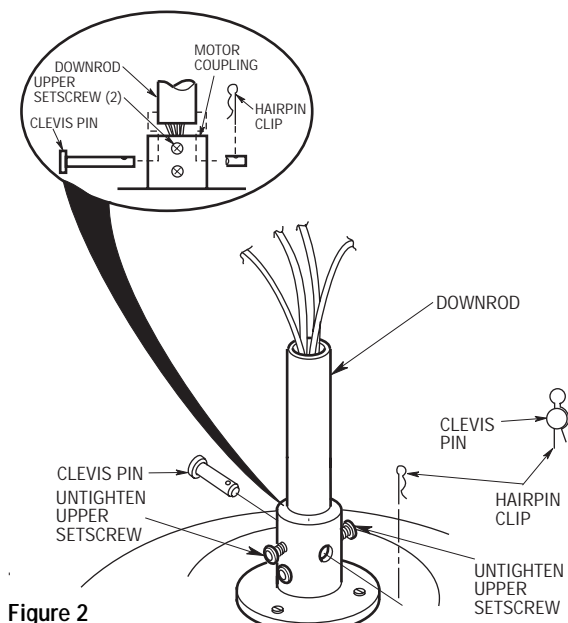

Figure 2
- 2. Unscrew the two upper setscrews (Figure 2) until they clear the inside of the motor coupling. Then separate, untwist and unkink the three 80" motor leads. Route the motor lead wires through the downrod. Align the clevis pin holes in the downrod with the holes in the motor coupling. Install the clevis pin and secure with the hairpin clip (Figure 2). The clevis pin must go through the holes in the motor coupling and the holes in the downrod. Be sure to push the straight leg of the hairpin clip through the hole near the end of the clevis pin until the curved portion of the hairpin clip snaps around the clevis pin. The hairpin clip must be properly installed to prevent the clevis pin from working loose. Pull on the downrod to make sure the clevis pin is properly installed.
<p>It is critical that the clevis pin in the motor coupling is properly installed and the setscrews are securely tightened. Failure to verify that the pin and setscrews are properly installed (as shown in Figures 2 &amp; 3) could result in the fan falling.</p>
- 3. Tighten the two upper setscrews (Figure 2) securely while pulling up on the downrod.